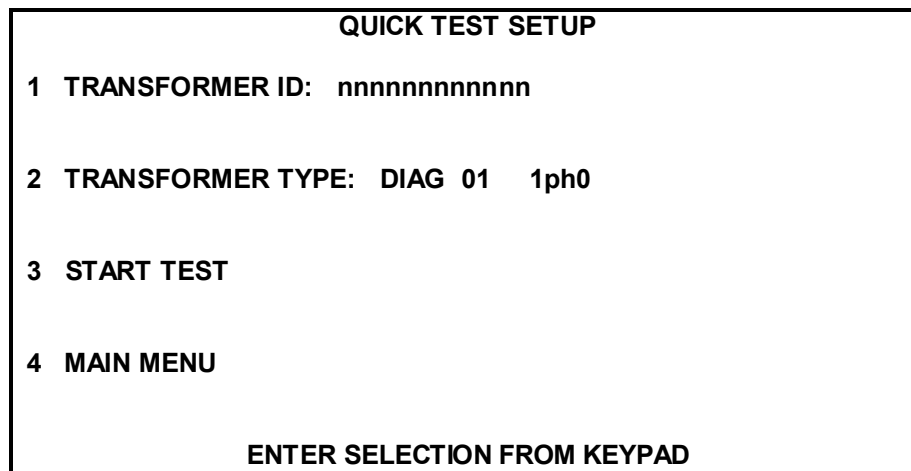
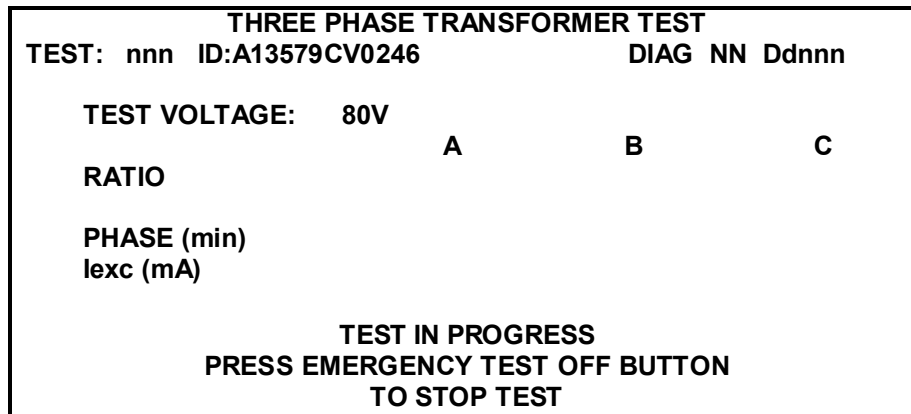

Figure 6-3. Quick Test Setup Screen
Figure 6-4. Initial Quick Test Result Screen
QUICK TEST SETUP Screen (Figure 6-3)
If 1 (QUICK TEST SETUP) is selected on the main menu, the QUICK TEST SETUP screen (Figure 6-3) appears.
- 1 TRANSFORMER ID: This selection allows you to enter up to a 12-character alphanumeric identification of a transformer. Skip this step if you do not want to enter this information. When selected, the screen appears the same as Figure 6-3 except for a message at bottom of screen: ENTER UP TO 12 CHARACTER ID. USE * TO SELECT LETTER. A cursor will blink on the line next to TRANSFORMER ID.
- 2 TRANSFORMER TYPE: This selection is used to enter the diagram number (vector group) of the transformer to be tested. This diagram number must be entered for testing any transformer windings (see selections 7, 8, 9 on the Main Menu screen). When 2 (TRANSFORMER TYPE) is selected, the screen appears the same as Figure 6.3 except for message at bottom of screen: ENTER TRANSFORMER DIAGRAM NUMBER. REFER TO TABLE ON INSTRUCTION CARD. Cursor will blink on the line next to TRANSFORMER TYPE (in place of “DIAG 01 1ph0”).
- 3 START TEST: This selection initiates testing of a transformer. See Figure 6-4 for the next screen displayed (Initial Quick Test Result Screen).
Quick Test Result Screens (Figure 6-4 and Figure 6-5)
If 3 (START TEST) is selected on the QUICK TEST SETUP menu, Figure 6-3, the initial quick test result screen shown in Figure 6-4 appears. This screen is displayed during testing of a transformer.
- 3 NEXT TEST: When selected, the QUICK TEST SETUP screen, Figure 6-3, appears. You may change connections and continue testing with the same transformer (for example, with a different tap of the high voltage winding) or you may start testing a new transformer.
Selections 1 and 2 allow you to test any pairs of H and X taps. If the transformer under test does not have any taps, only selections 3, 4, and 5 will be displayed on the screen. If 3 (START TEST) is selected, see Figure 6-4 for the next screen displayed. The % DEVIATION heading will also be shown on the screen.